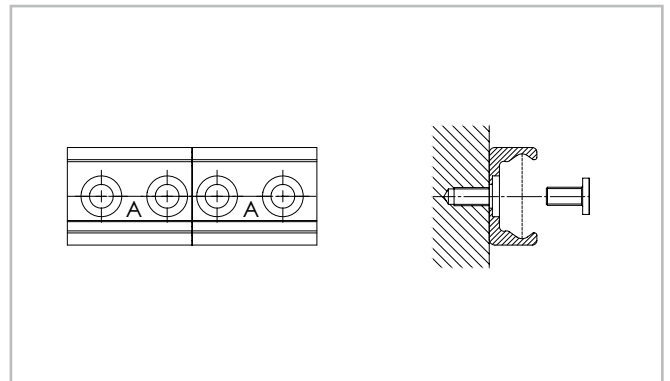

Fig. 114
- (1) Fix the individual rails on the mounting surface by tightening all screws except for each last one on the rail joint.
- (2) Install the end fixing screws without tightening them (see fig. 114).